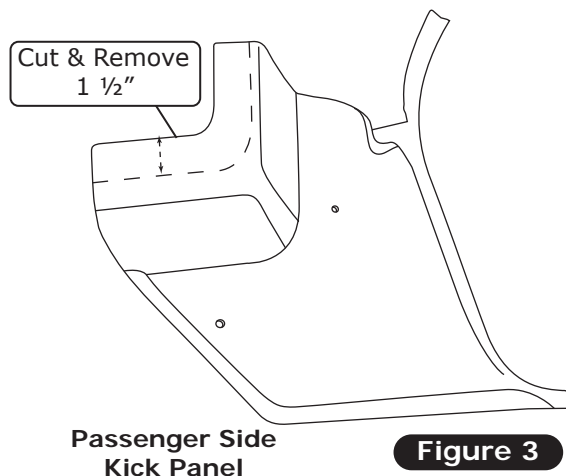

Figure 3
4. Install (4) S-clips onto the glove box cap, and install the glove box cap onto the glove box as shown in Figure 3, below.
5. Modify the passenger-side kick panel as shown in Figure 3, below.